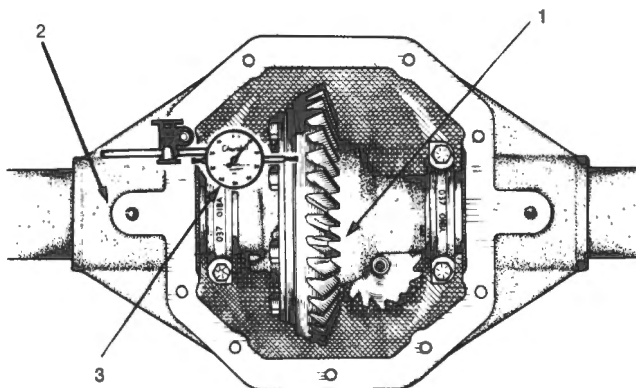

Fig. O-6
- 3 Rotate the differential through several turns whilst holding a dial indicator gauge against the back face of the crown wheel to read the run-out. Fig. O-6.
- 4 Leaving the dial indicator set up as in Fig. O-6. push the crown wheel hard one way to measure the side play — no side play should be present.